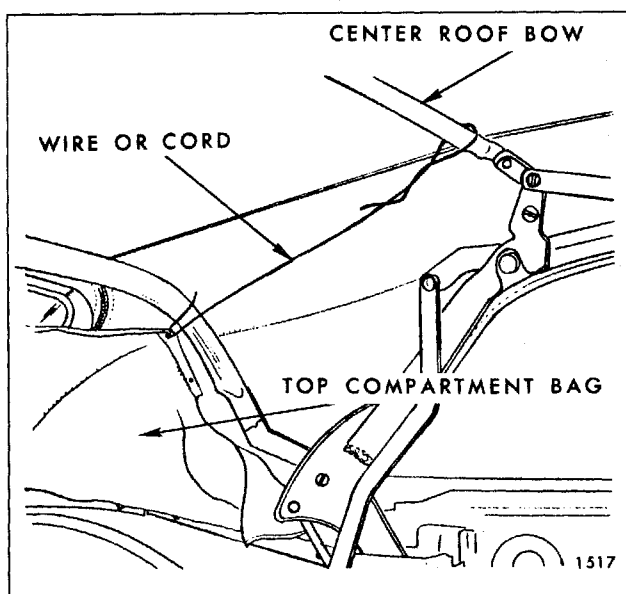

Fig. 6-33—Top Compartment Bag Tied To Center Rail
16. Detach folding top compartment bag from rear seat back panel, thus exposing rear quarter and rear trim stick attaching bolts. Forward end of top compartment bag may be tied or wired to center roof bow to provide ready access to attaching bolts (Fig. 6-33).